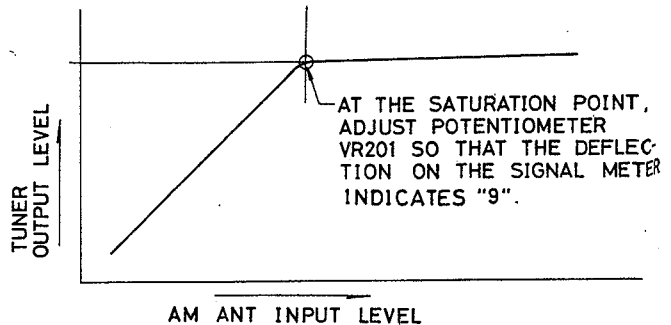

FIG. 1-2. AM SIGNAL METER CALIBRATION
1. Connect AC VTVM to Fixed Output terminal. Apply 1,000kHz signal (400Hz, 30% Mod.) into AM ANT COIL from AM Signal Generator and raise ANT input level until output signal reaches saturation point. See Fig. 1-2.
2. While in state of (1), adjust potentiometer VR201 (on IF pcb) so that Signal Meter reads "9".